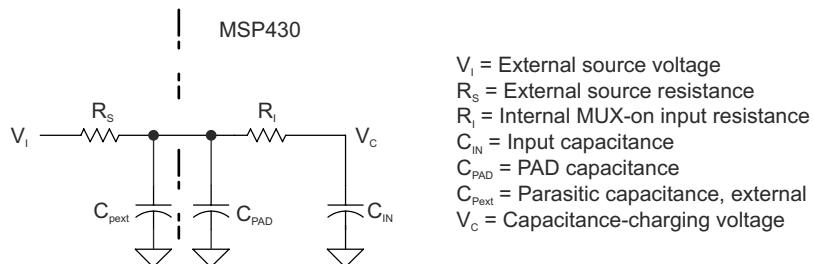

Figure 8-14. eCOMP Input Circuit
(1) For the eCOMP C_{IN} model, see Figure 8-14.
(2) This is measured over the input offset.